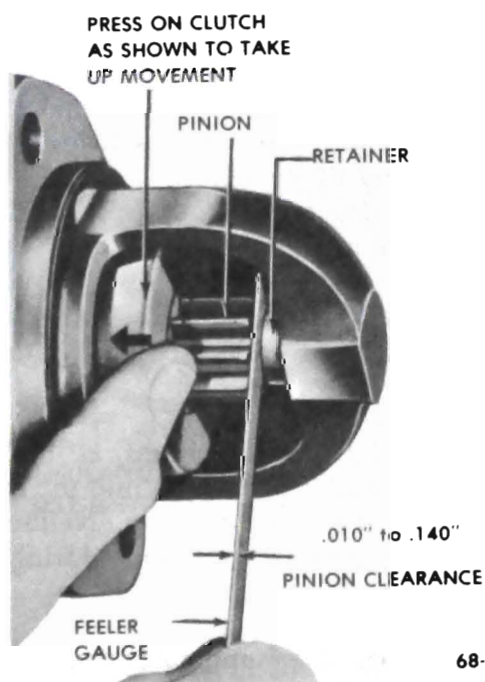

Figure 68-4 Checking Pinion Clearance
2. After energizing the solenoid, push the pinion away from the stop retainer as far as possible and use feeler gauge to check clearance between pinion and retainer. See Figure 68-4.